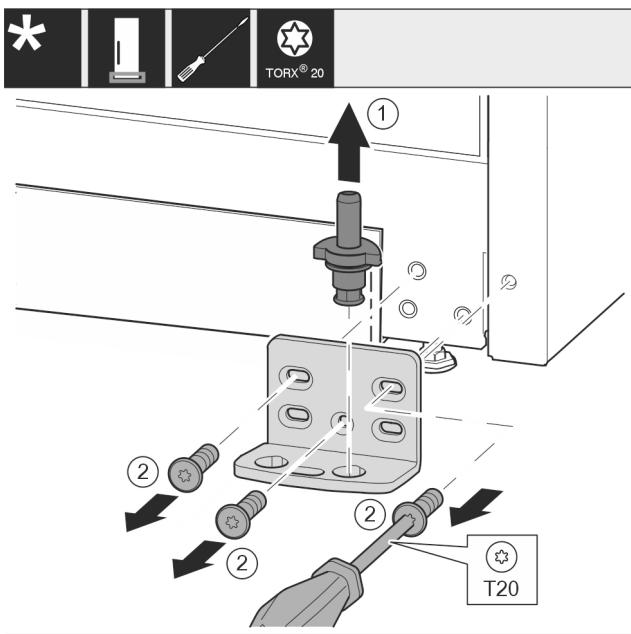

Fig. 15
- Completely pull out the bearing pin *Fig. 15 (1)* upward.
- Use a screwdriver to unscrew the screws *Fig. 15 (2)* and remove the swap bearing block.